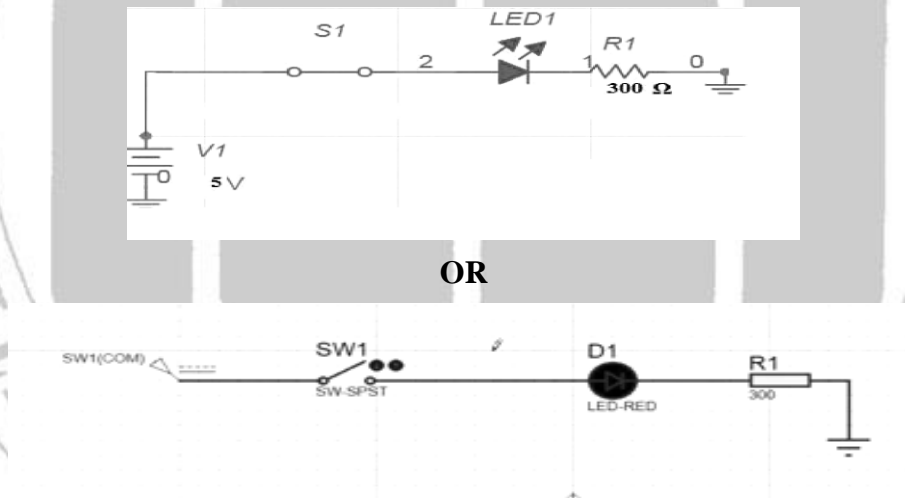

Fig 1.4 : Simplex communication using LED and switch
1. Connect the electrical circuit as shown in fig 1.4